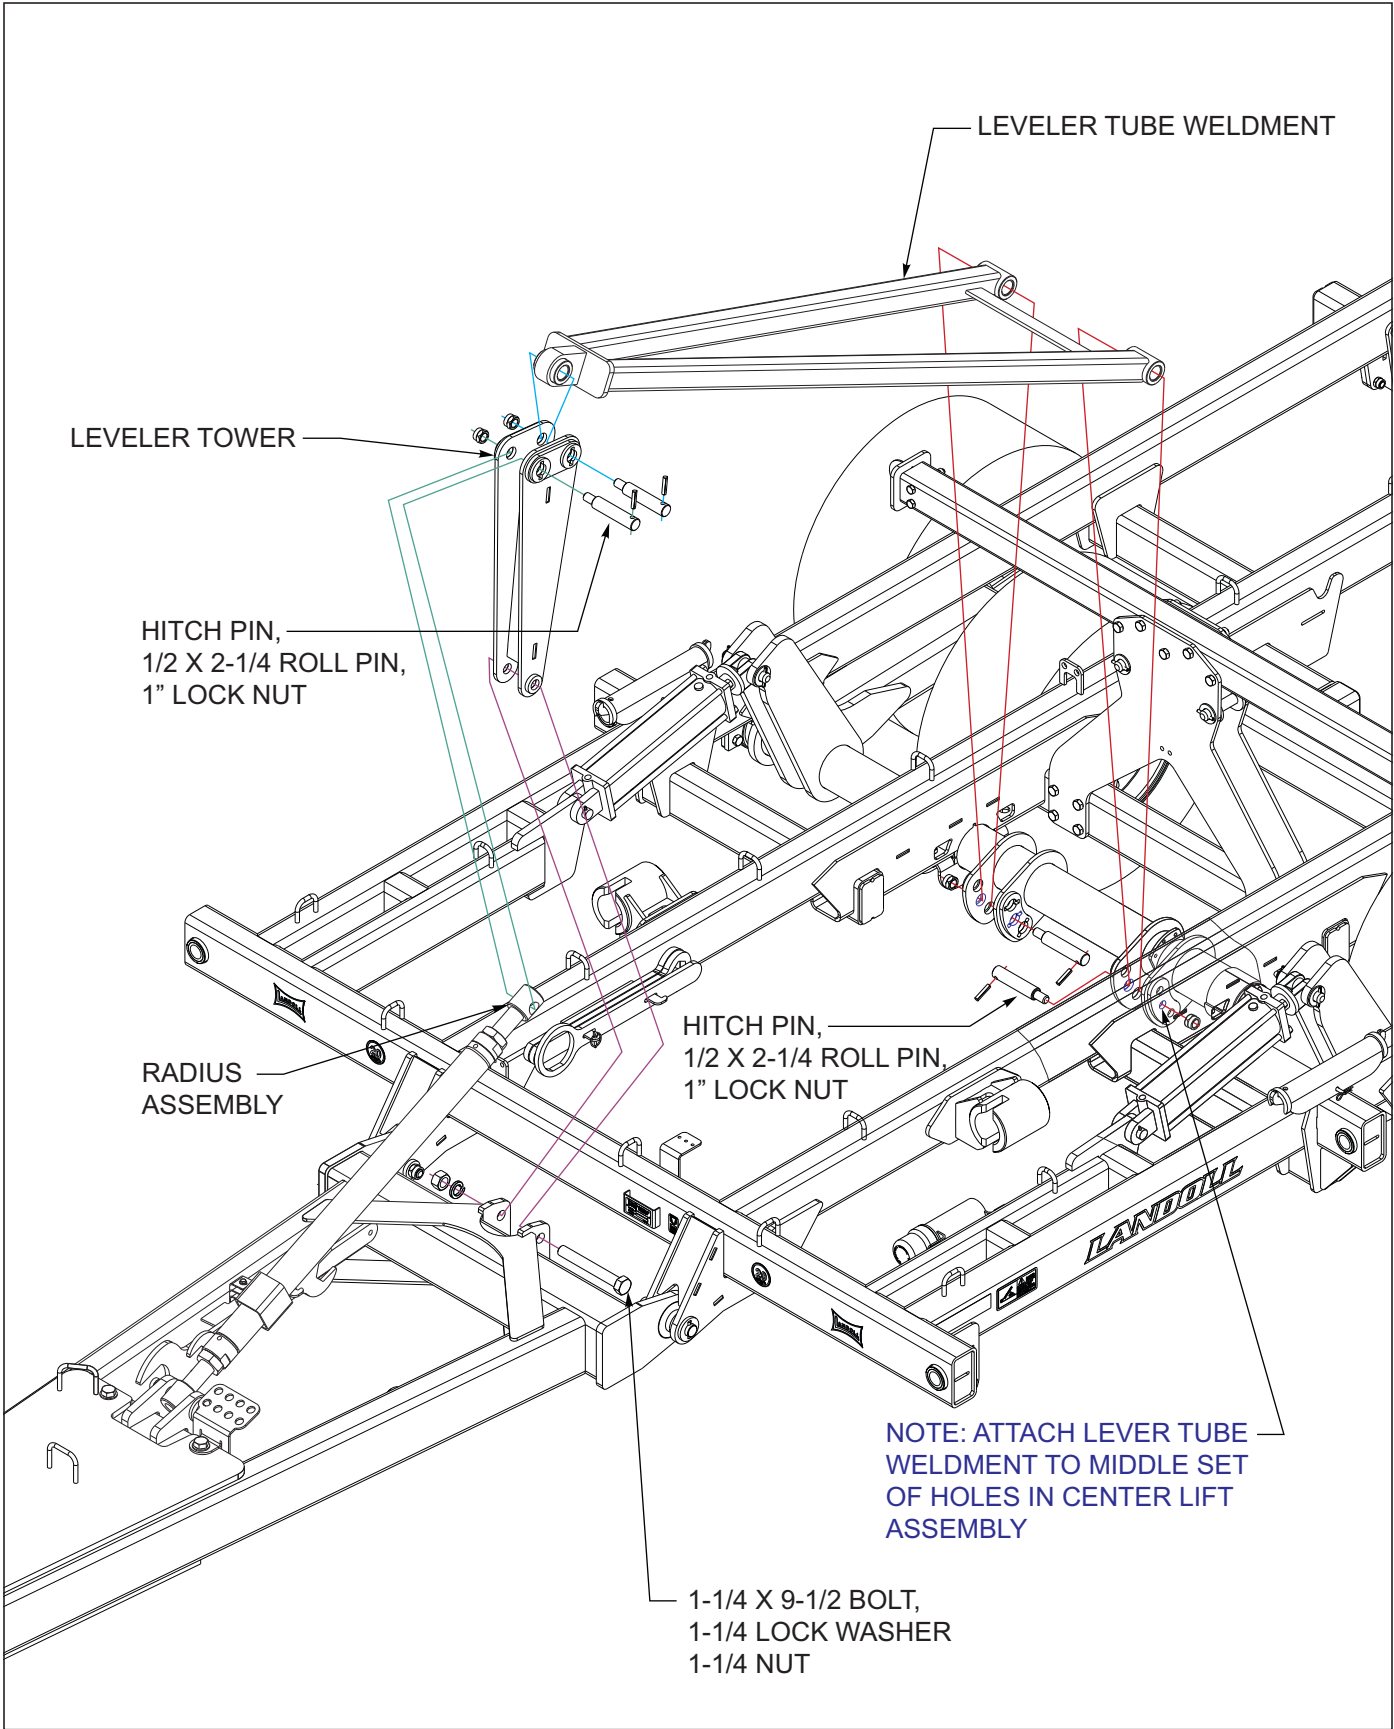

Figure 3-4: Hitch Leveling Assembly
1. Connect narrow end of the leveler tower to the top hole on rear of the hitch assembly using 1-1/4-7 x 9-1/2 hex head cap screw, slotted lock washer, and hex nut *See Figure 3-4*.